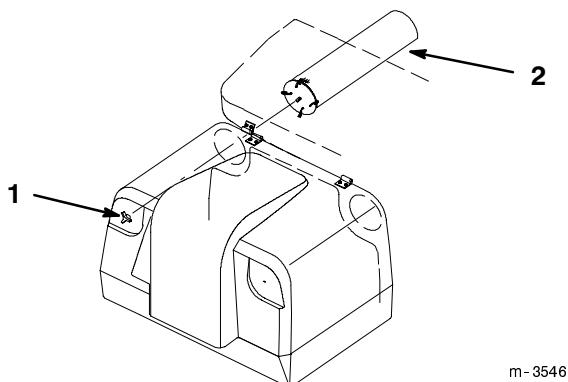

Figure 89
2. With the door open, remove the knobs at the upper front of the hopper and slide the screens out the rear of the hopper (Fig. 89).
4. Replace the screens and secure with knobs (Fig. 89). Close and latch the hopper door.